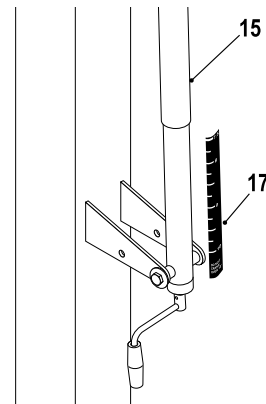

Figure 12
21. Adjust unit to lowest position. Use a tape measure to measure from the top of the rim to the playing surface. Stick Height Decal (#17) to back of Actuator (#16) with the measured height mark aligned with bottom of Actuator Sleeve (#15). See Figure 12.